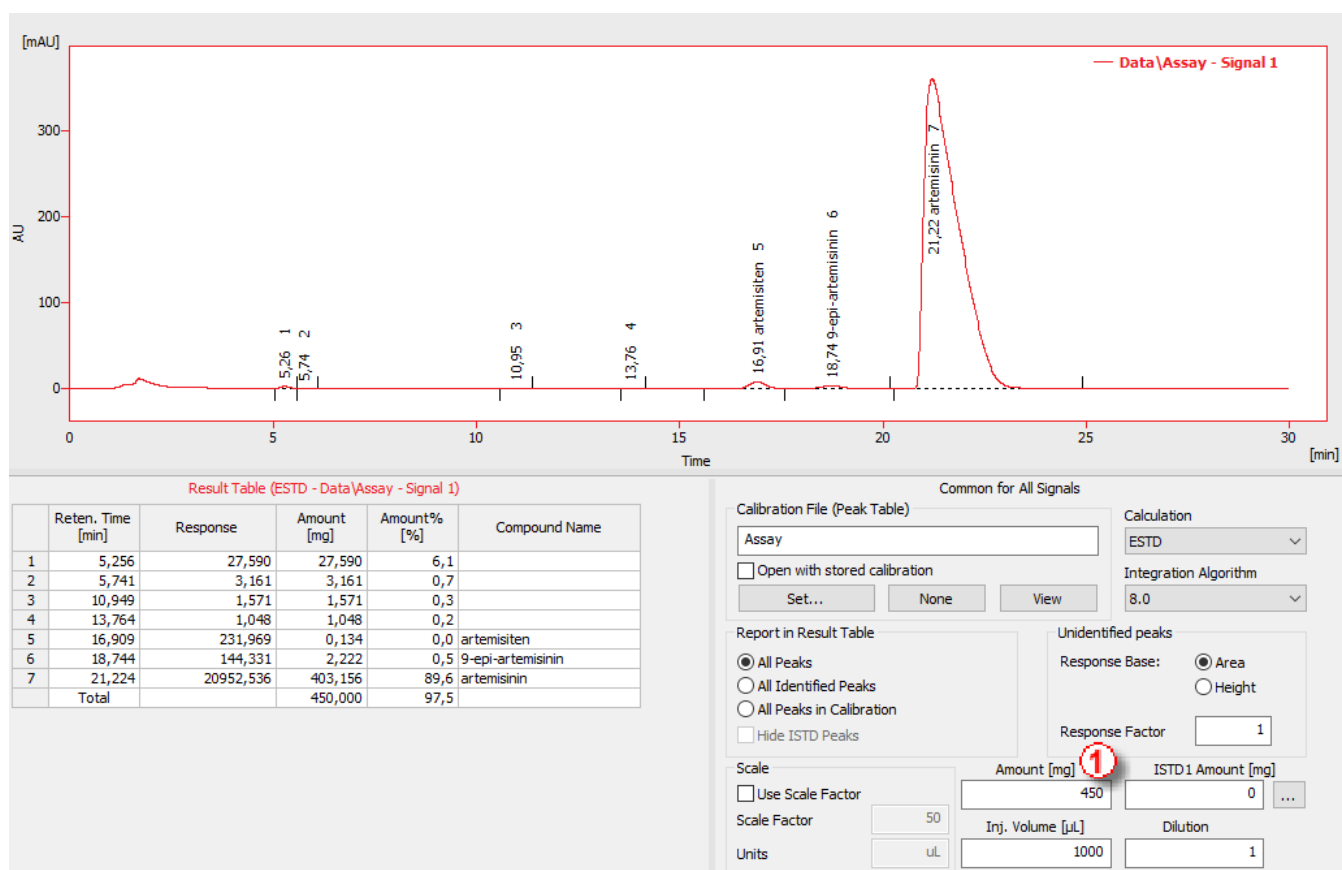

Fig. 3 – Customized assay calculation
The first equation defines how to determine the percentual content (assay) of artemisinin (Fig. 1). Fig. 3 displays the result calculated in Clarity. In order to be able to perform such calculations in Clarity you need to prepare relevant calibration. In this case, the calibration is called "Assay," and its detailed setting can be reviewed in Fig. 6. It is necessary to insert a specific amount (mass) of the test substance into the Amount ① field on the right side of the Chromatogram window. The correctness of the calculations in Clarity was verified against the same calculations done in MS Excel. The result sheet from MS Excel can be downloaded from the following link: Custom-calculations-in-Clarity-data.zip.